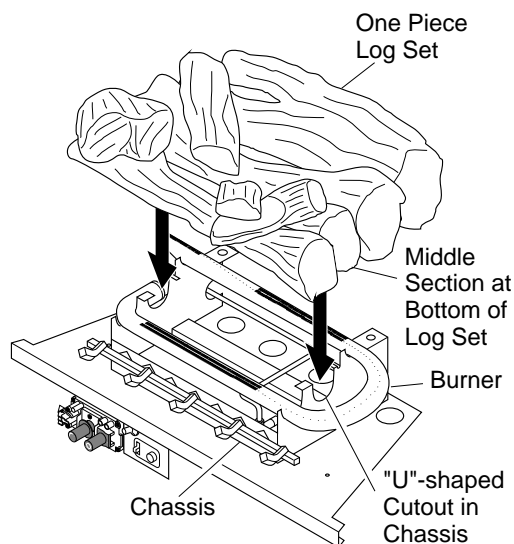
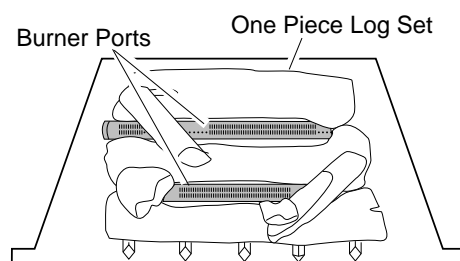

Figure 23 - Installing One Piece Log Set
Figure 24 - Installing One Piece Log Set (Top View)
1. Place one-piece log set on grate to fit as illustrated in Figure 24. Make sure middle section at bottom of log set is seated into "U"-shaped cutout in center of chassis (see Figure 23).